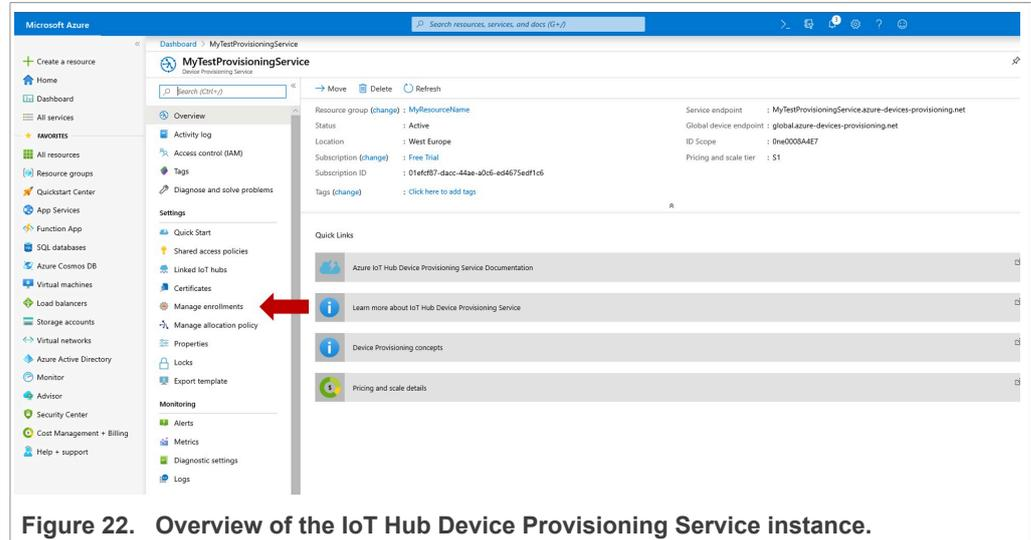

Figure 22. Overview of the IoT Hub Device Provisioning Service instance.
- Choose **Manage Enrollments** from the Azure IoT Hub Device Provisioning Service dashboard as shown in Figure 22.